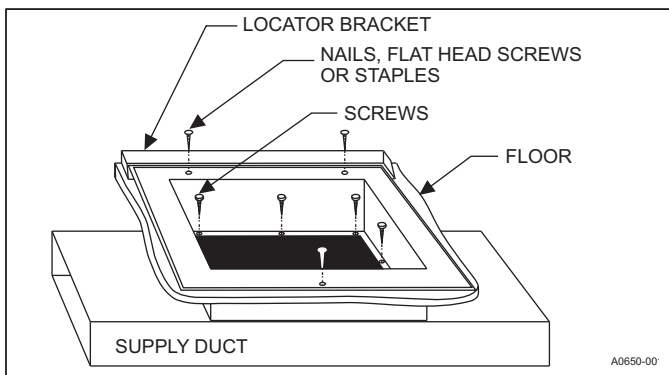

Figure 9: Duct connector screw attachment
3. Place locating bracket (supplied with the duct connector) to the back edge of the floor opening. See Figure 9.